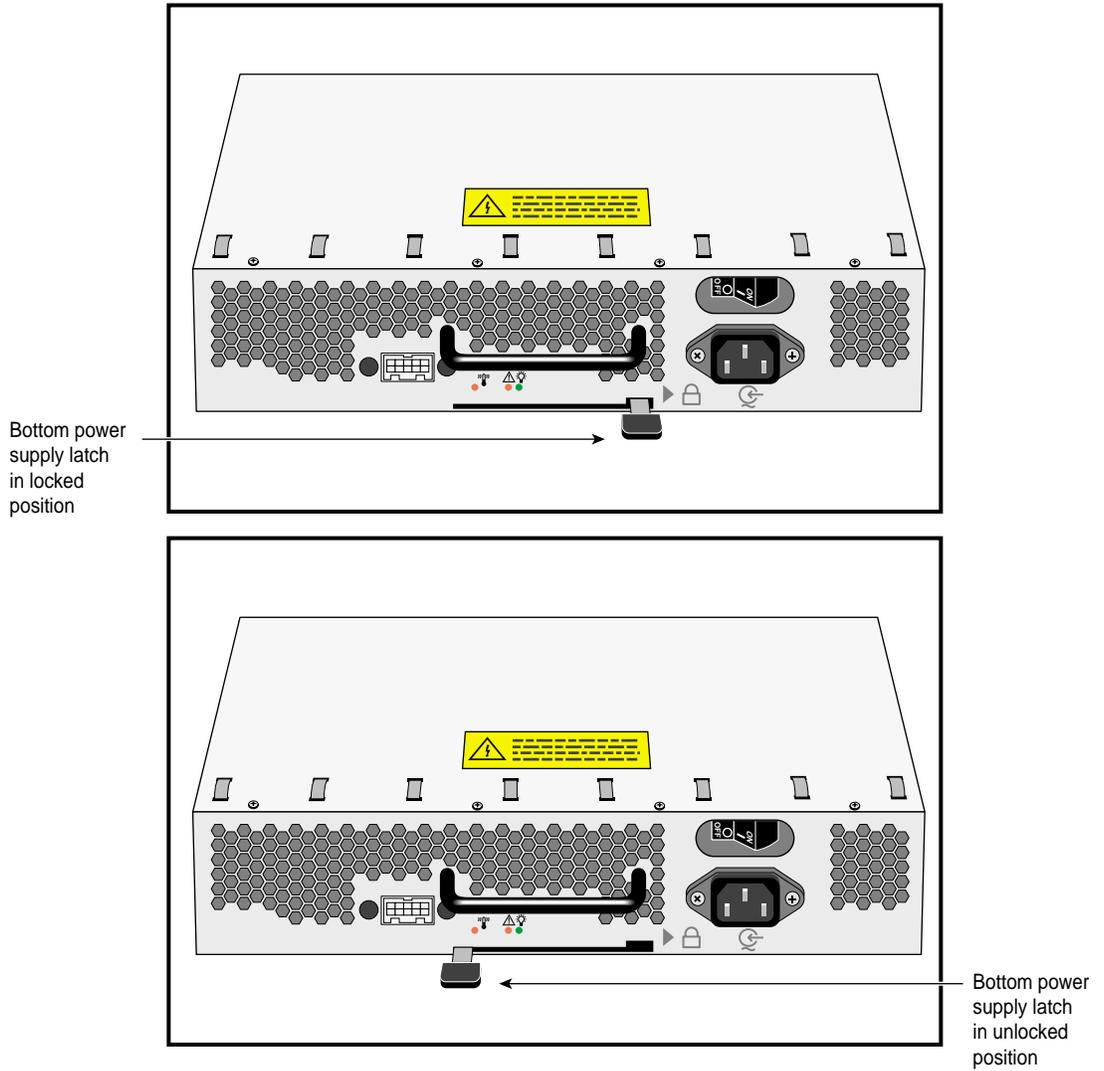

Figure 4-9 Unlatching a Power Supply
6. Remove the faulty power supply (see Figure 4-9):
2. Orient the new power supply, as shown in Figure 4-9, and slide it into the bay.
3. Move the lever to the lock position, as shown in Figure 4-9.